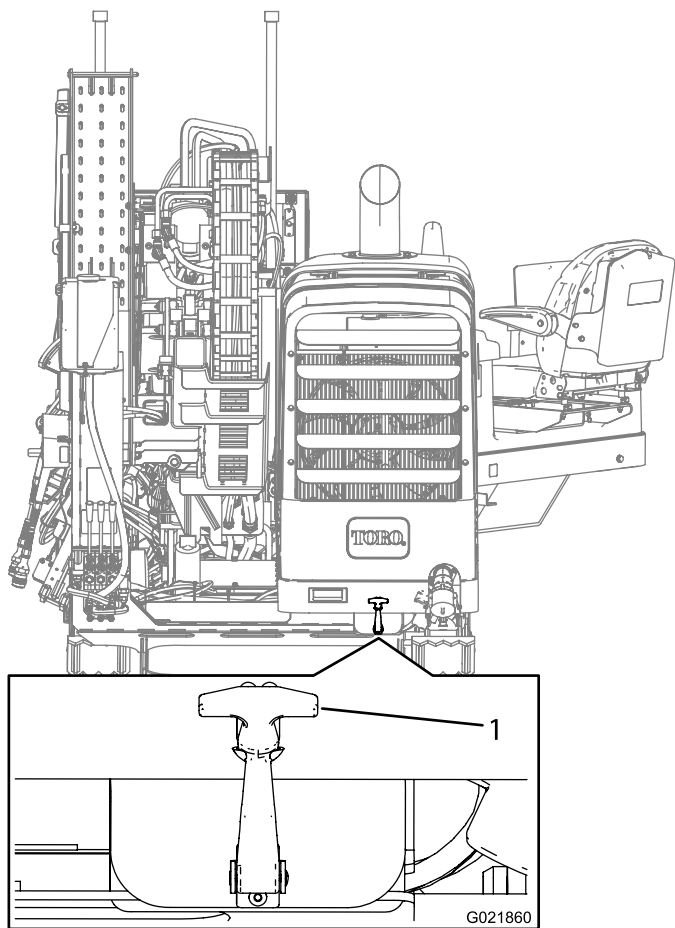

Figure 95
2. Pull the hood latch out (Figure 95).